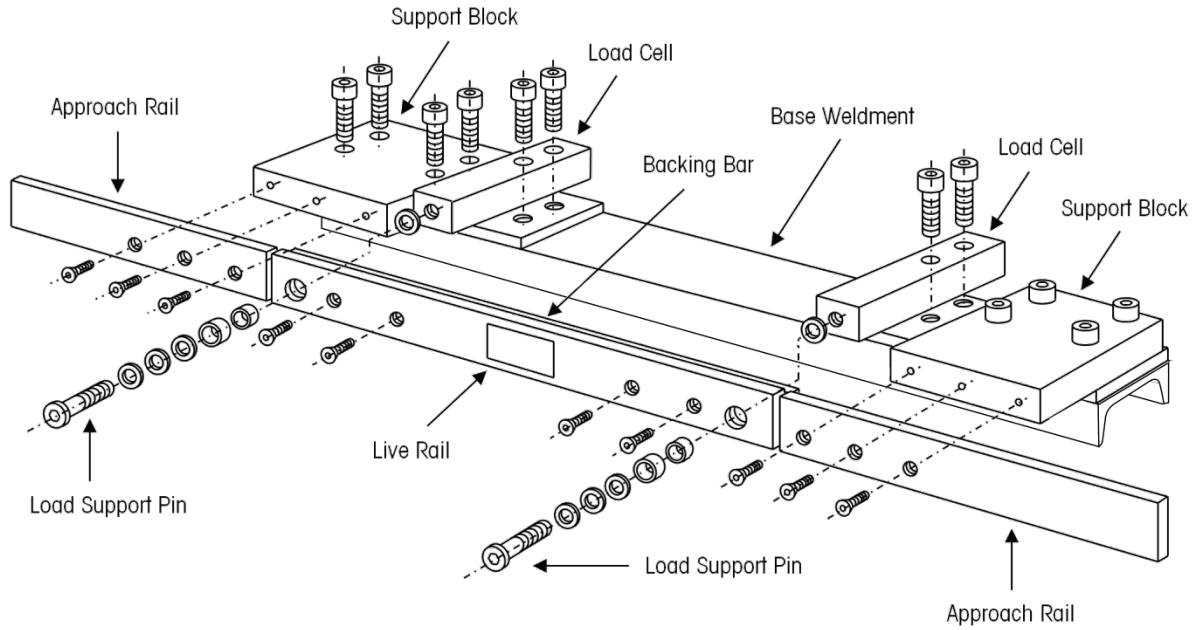
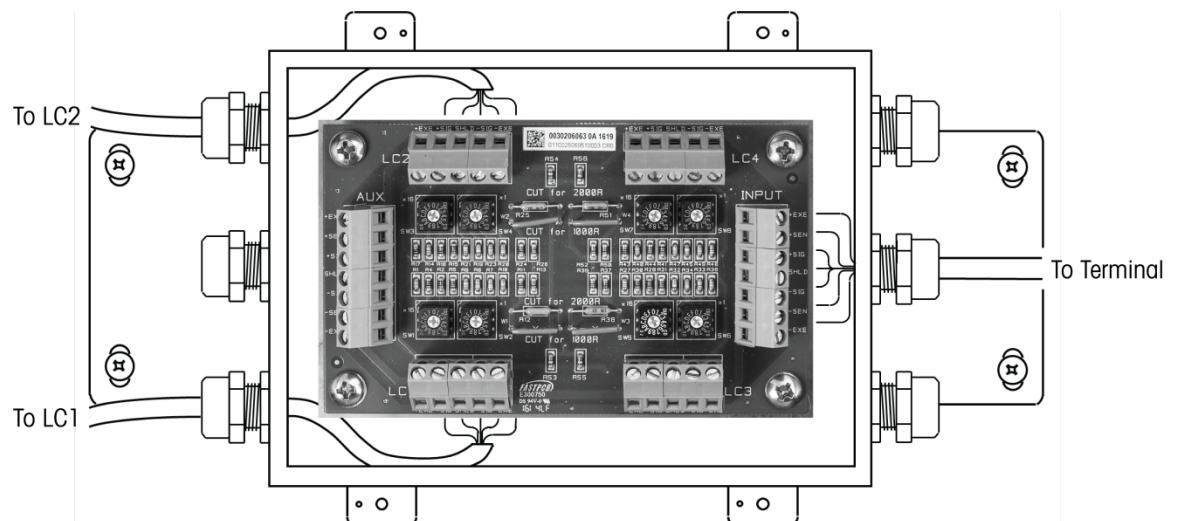

Figure 3-2: Monorail Scale Assembly (With 2-Foot Live Rail)
Figure 3-7: Analog Junction Box Detail
5. Attach the live rail assembly to the load cells, using the load support pins and hardware. Make sure that there is 1/16 inch of clearance between the live rail and the approach rails (see Figure 3-2). Torque the load support pins to 200 ft-lb.
10. Install the junction box in a location close to the scale, where the load cell cables can reach the box. The location should be dry and away from extreme temperature fluctuations. Wire the load cells into the junction box according to Figure 3-7 and Table 3-1. Complete junction box installation according to the **Precision Junction Boxes Installation and Service Manual** (30514073).
A Model 0990 monorail scale can be used with an analog junction box for summing the load cell outputs. Only analog-compatible scale terminals will work with an analog junction box. See Figure 3-7 and Table 3-1 for the correct cable connections. Load cells are numbered as indicated in Figure 3-2.